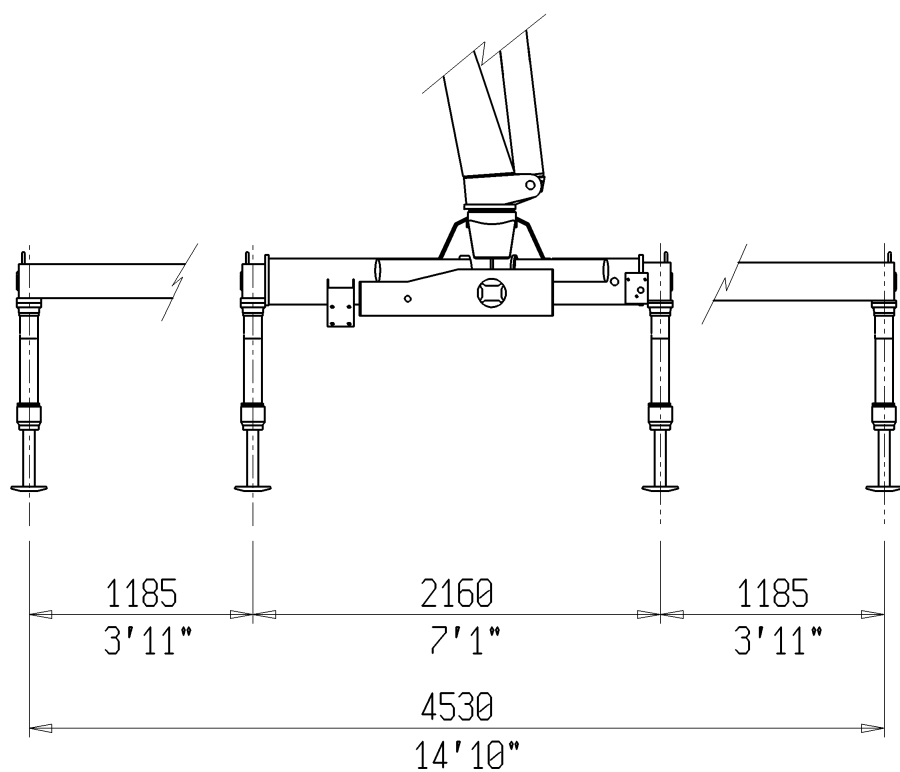

Fig.6-2
6.4 BRACCI STABILIZZATORI EXTRALLARGHI (Fig. 6.2)
6.4 OUTRIGGERS BOOMS IN EXTRA LARGE VERSION (Fig. 6.2)